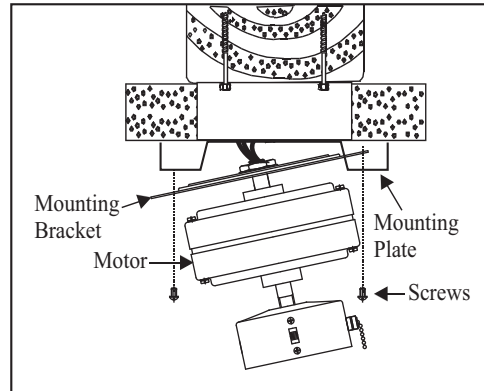

Figure 7
1. Swing the motor assembly up into position under the mounting plate. Secure the bracket to the plate with the screws provided. (Fig. 7)